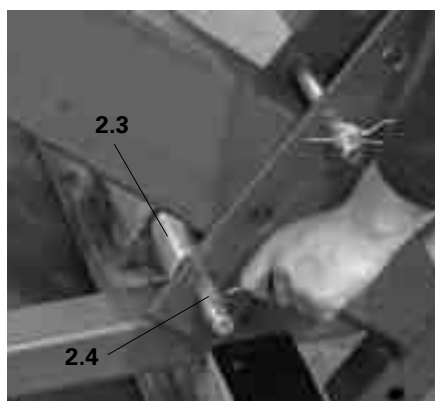

Fig. A1.20
7. Push roller (2.3) on bolt (2.4). On the guardrail side, insert and secure underneath the bracket beam. (Fig. A1.20)